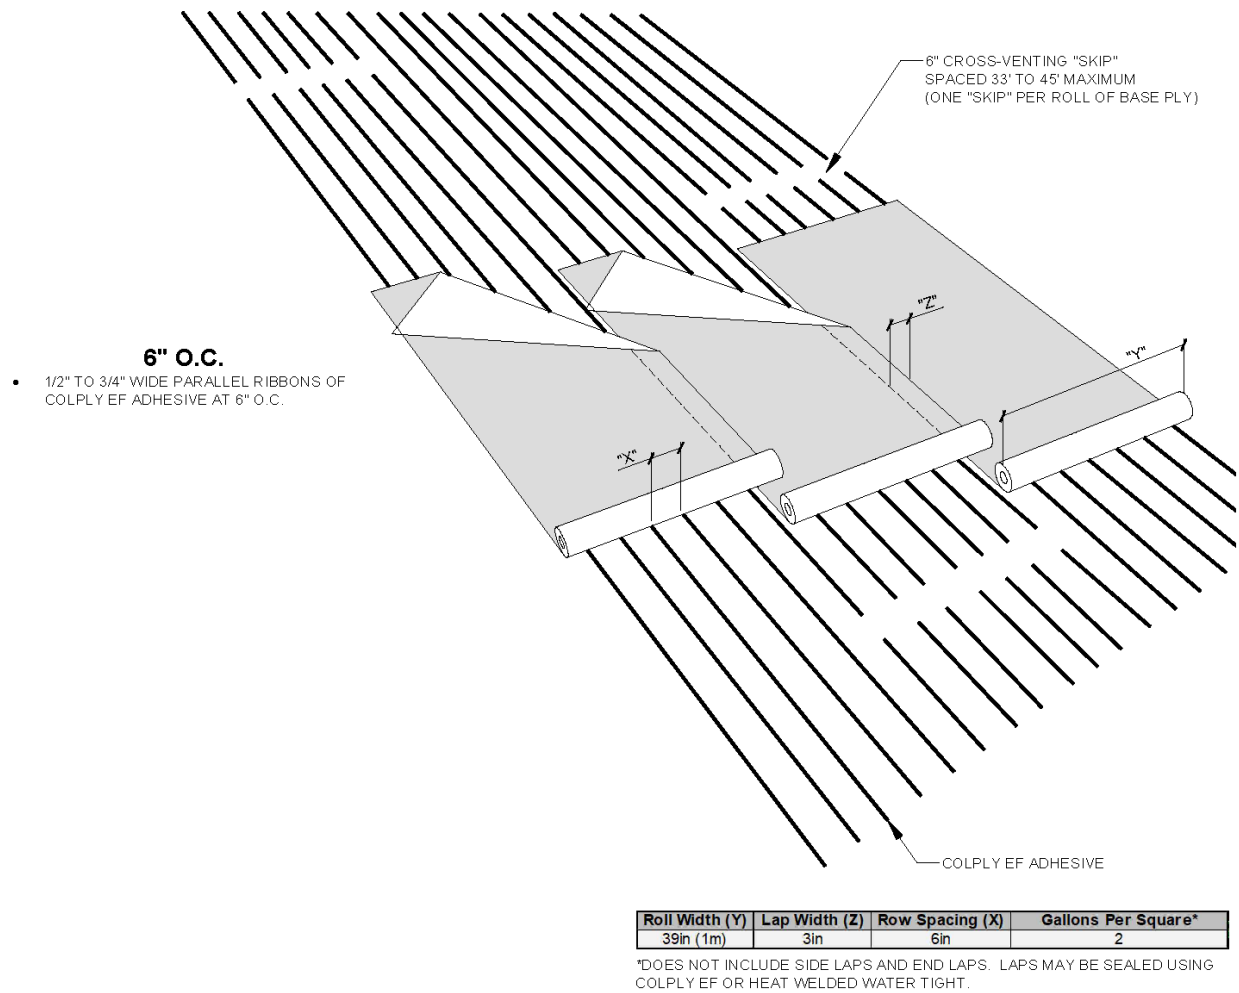

Figure 3.2.2a Partially Adhered, Cold Adhesive-Applied Vapor Retarder Field Ply, 6in O.C. Fastening Pattern
- Provide a “skip” in the rows of adhesive ribbons in order to “break” the rows and allow for cross-venting between ribbons. Provide one “skip” per roll of vapor retarder, spaced 33 to 45 ft apart, and as necessary to accommodate rooftop and roof perimeter conditions. Refer to Figure 3.2.2a.